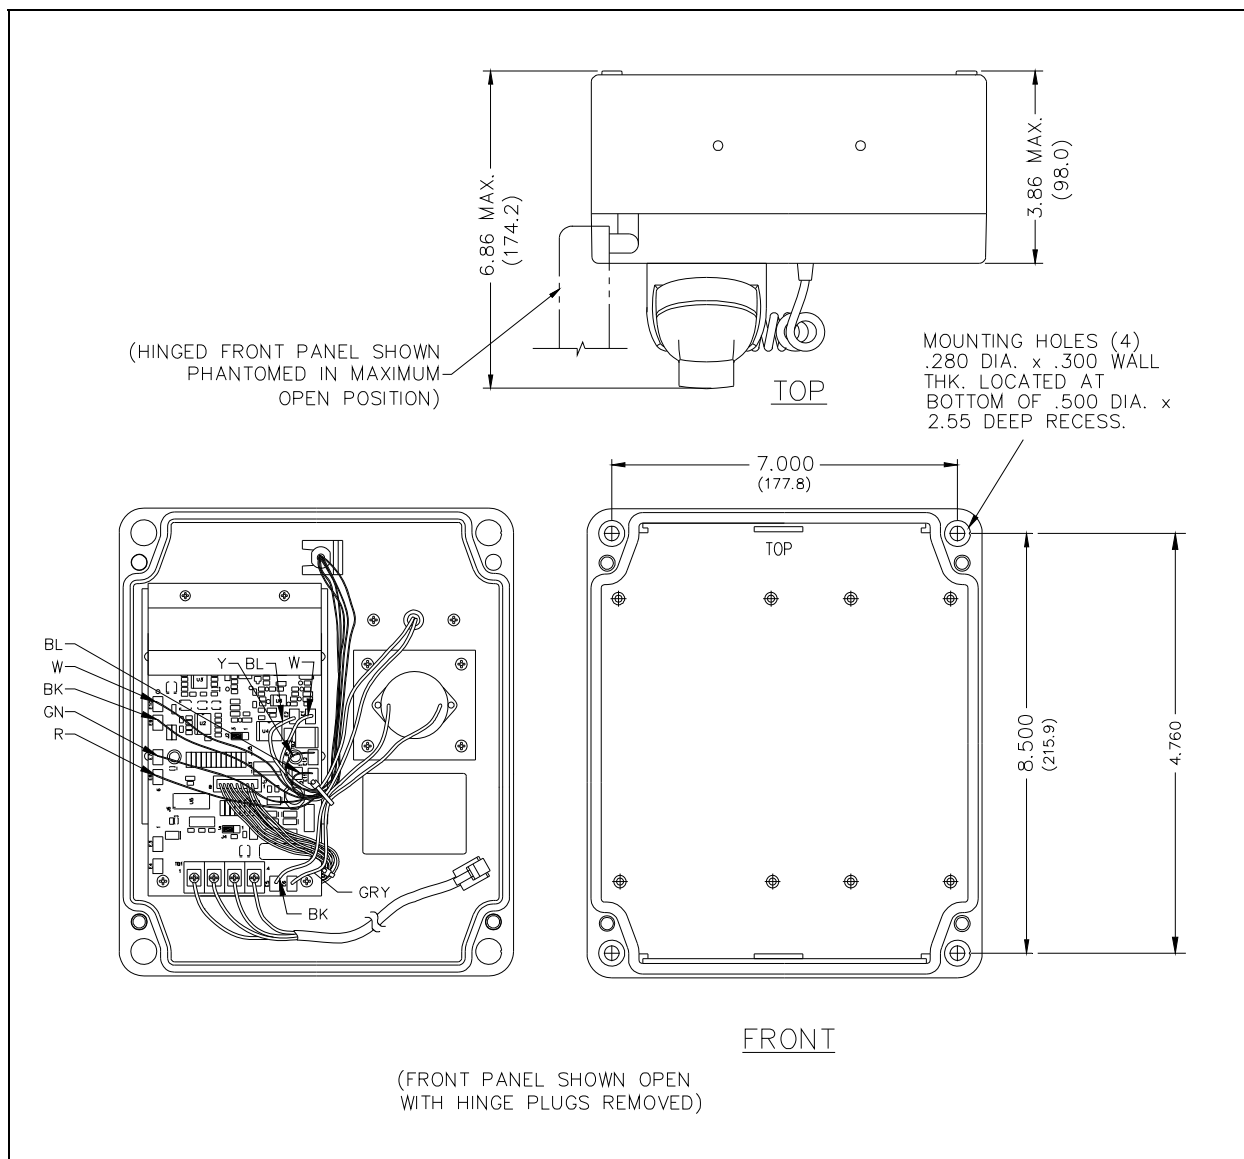

Figure 7. Model 341-001 Mounting Diagram
2. There are four mounting holes in the rear enclosure. Mount the enclosure to the wall using either four 1/4-20 machine screws with nuts and washers, or #14 wood screws of appropriate length for the mounting surface. Refer to Figure 7.